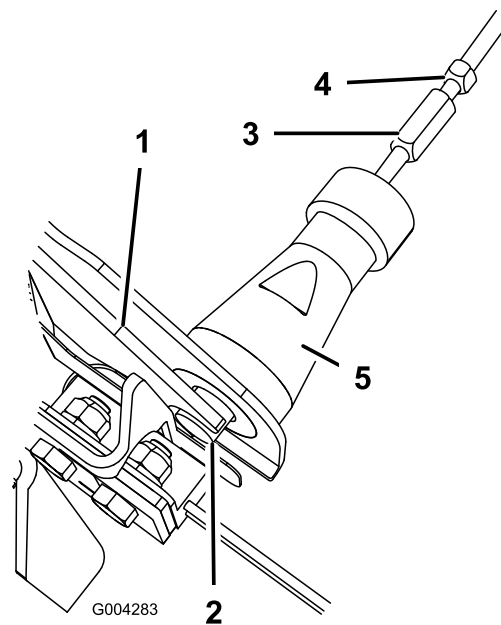

Figure 29
- A. Use the swivel fitting adjuster to set solenoid pin depth flush with the shift selector bracket surface shown in Figure 29.